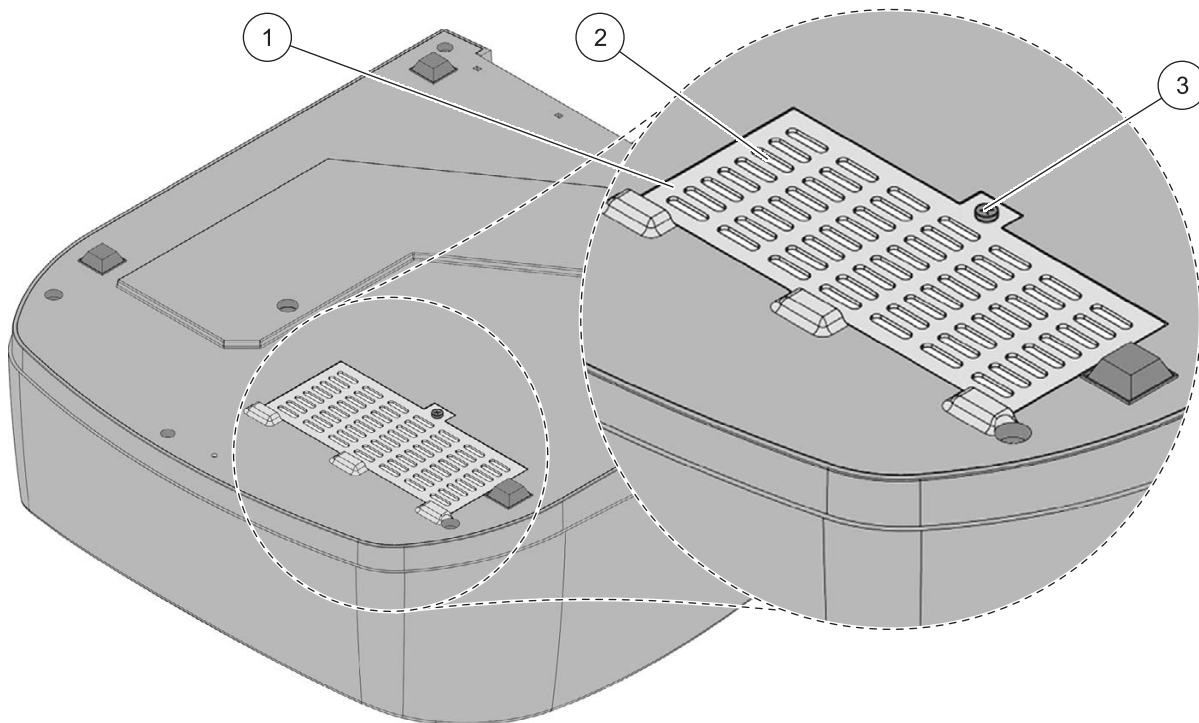

Figure 9 Base of DR 5000 with filter grid
6. Use a screwdriver (standard or cross-head) to open the filter grid (Figure 9 on page 126, item 1).